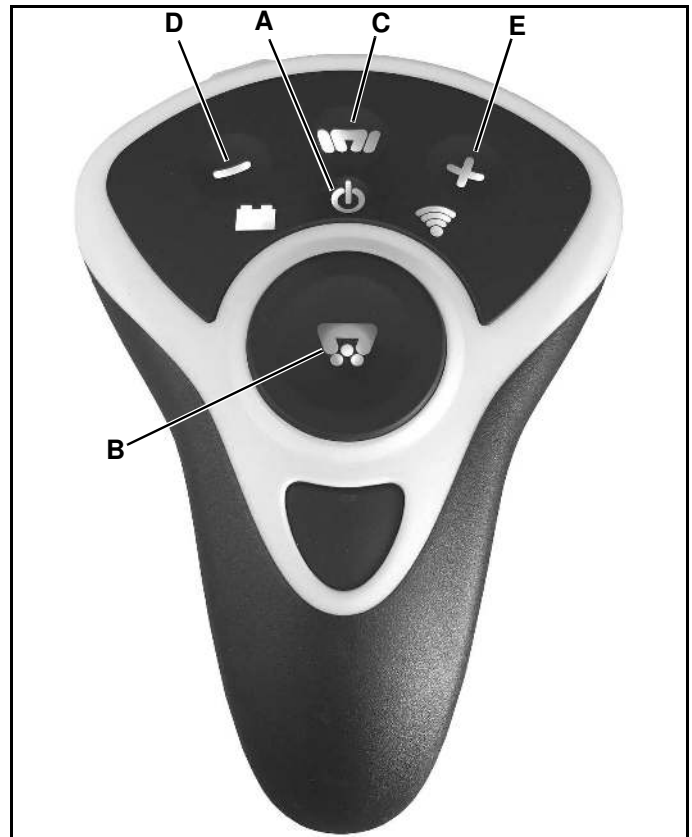

Figure 1-17
1. The center button just above the large middle button (Figure 1-17, A) is the power button. Press and hold the power button for three seconds to turn on the control. To turn the control off, hold the power button until the backlights go out.
2. The large button in the middle of the control (Figure 1-17, B) is the on/off button for the spinner motor. To start or stop the spinner press and release the button. When the motor is running, the light behind the button (salt light) will turn on. The light will blink slowly in speed step 1.
3. The button on the top row, center (Figure 1-17, C) is the vibrator button. Holding the button down will turn on the vibrator (if equipped). Releasing the button will turn it off.
4. The button on the left of the top row (Figure 1-17, D) is the speed reduction button. Pushing and releasing the button will drop the spinner one speed step. There are a total of four speed steps available.
5. The button on the right of the top row (Figure 1-17, E) is the speed increase button. Pushing and releasing the button will raise the spinner one speed step. There are a total of four speed steps available.